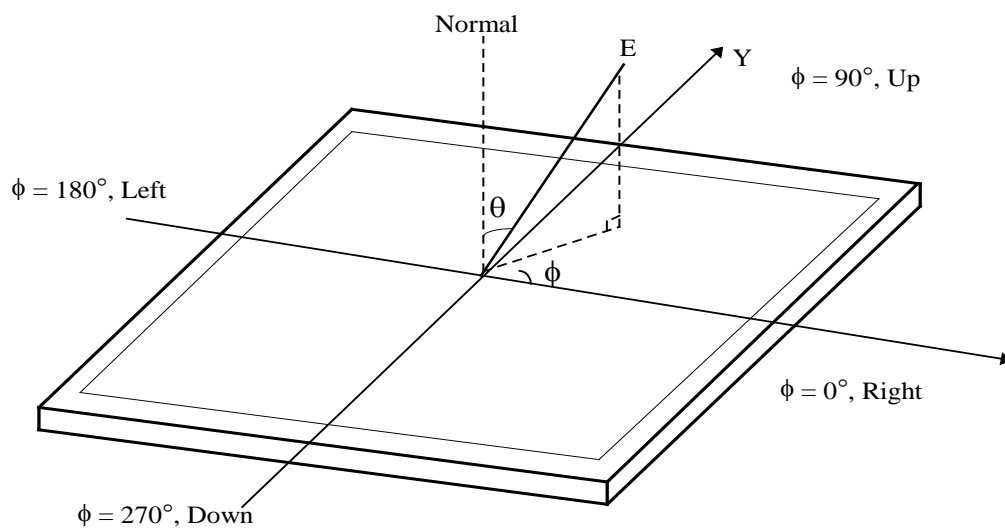

FIG. 11 Viewing Angle
5. Viewing angle is the angle at which the contrast ratio is greater than 10. The angles are determined for the horizontal or x axis and the vertical or y axis with respect to the z axis which is normal to the LCD module surface. For more information, see the FIG. 11.